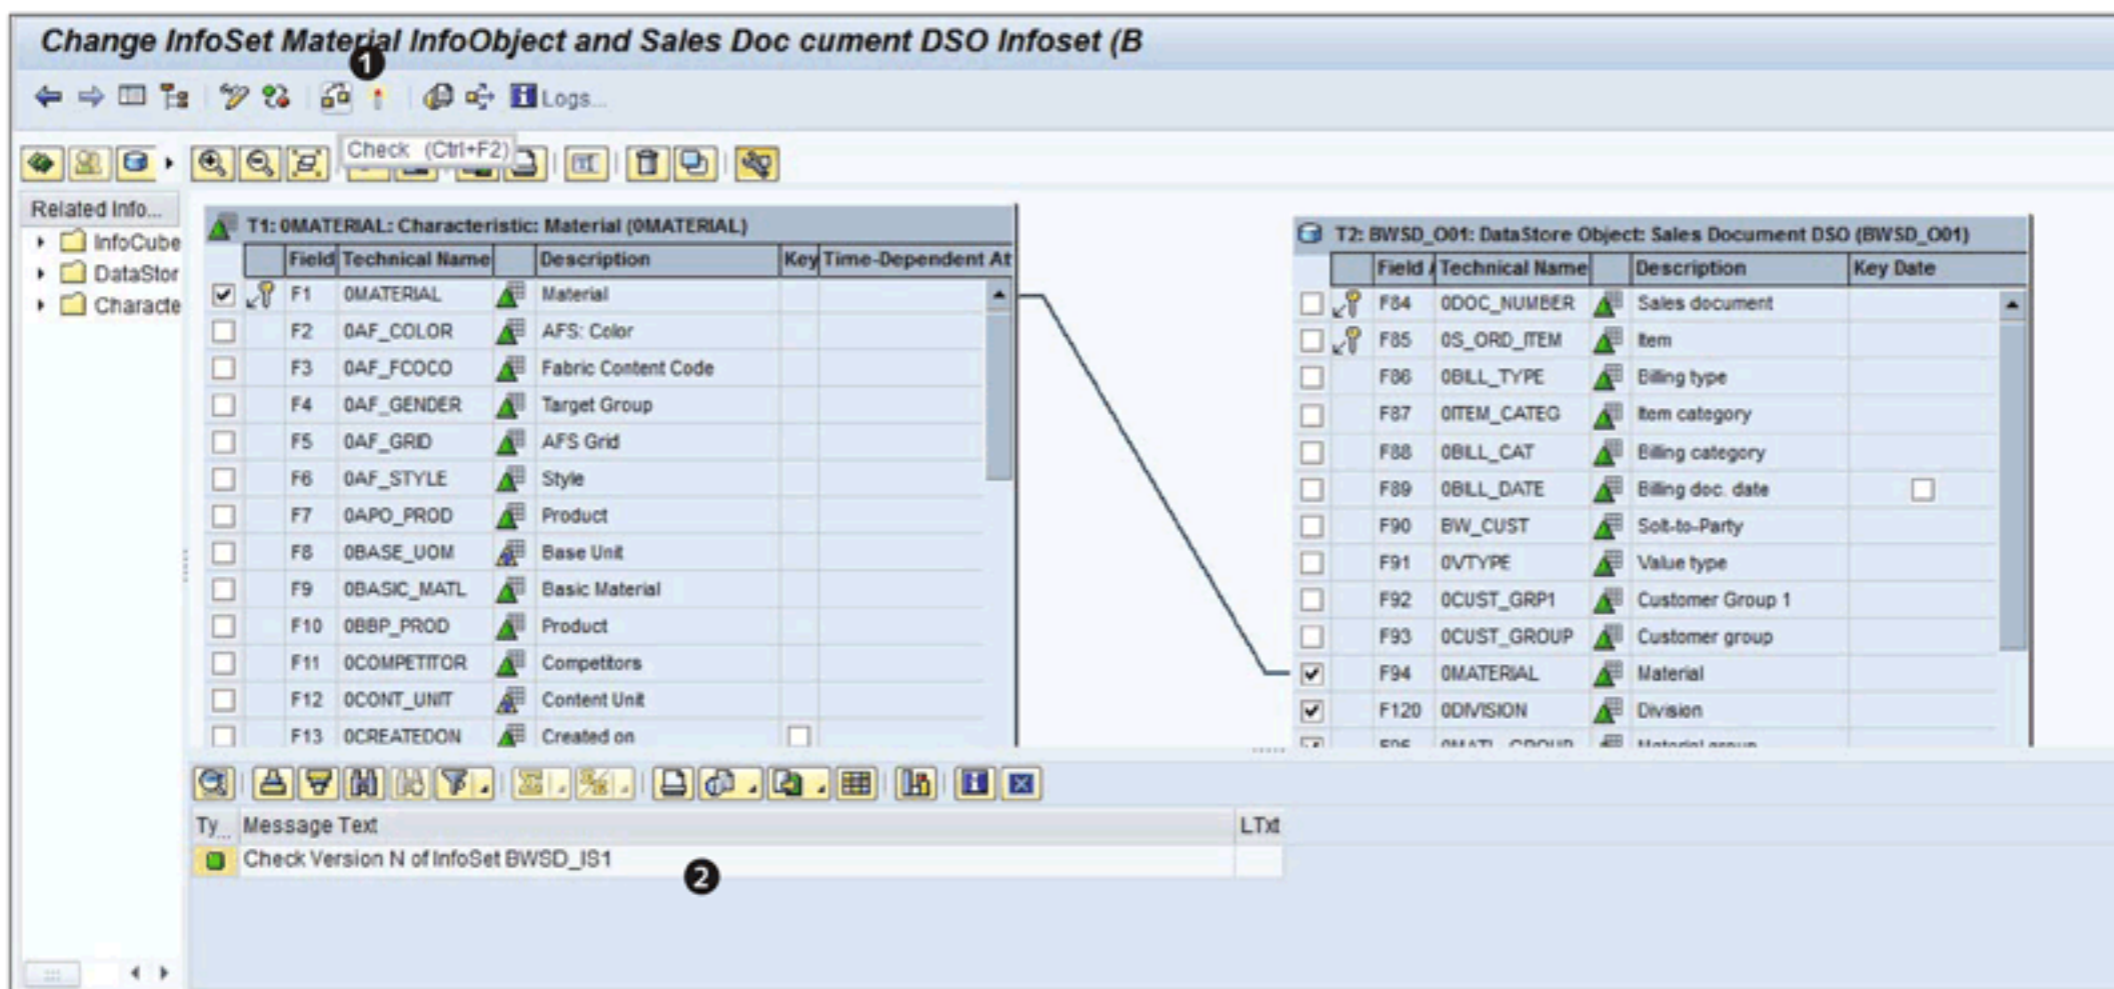

Figure 6.26 Checking the Definition of InfoSet
Now check the definition using the CHECK icon (🔍), as shown in ❶ of Figure 6.26.
Checked messages are available at the bottom of the screen, as shown in **2** of Figure 6.26. Since the checking of the InfoSet BWSD_IS1 hasn't resulted in any error messages, we can now activate the InfoSet definition in the SAP NetWeaver BW system.